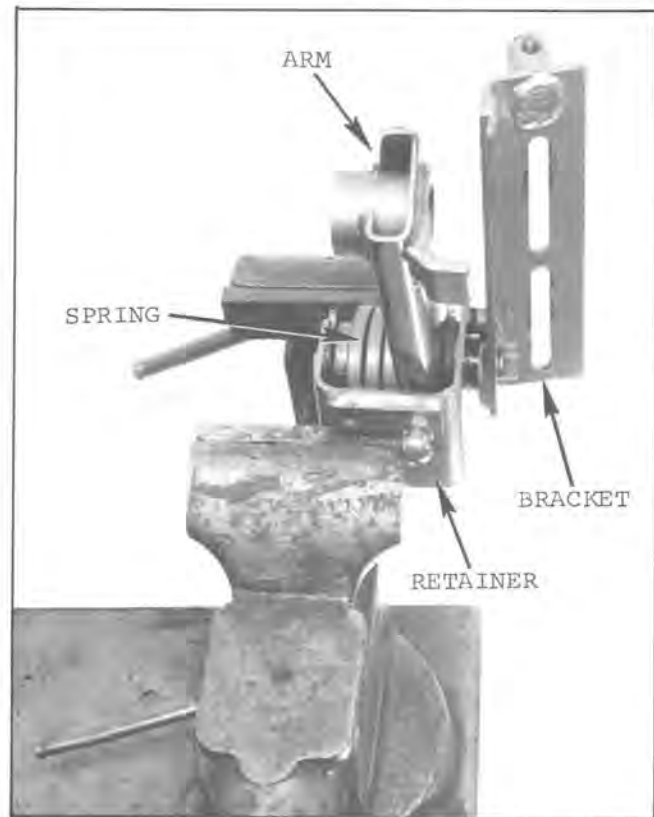

Fig. 80 — Disassembling / Reassembling Rear Suspension Bracket
- c. Place bracket in a vise and clamp securely. Remove assembly bolt, washer and lock nut. Carefully remove bracket from vise and separate parts while noting their assembly arrangement. See Fig. 80.